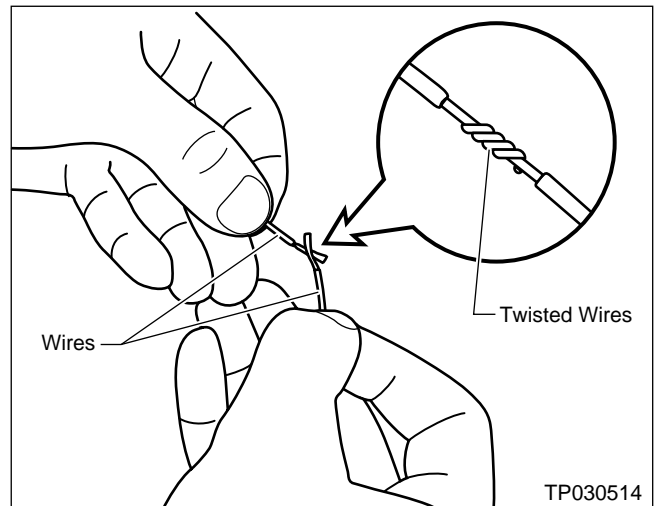

Figure 3
6. Connect the wire (of the replacement connector) to the vehicle wire harness making sure the wires are correctly connected (i.e., no mis-matched wires). Then, firmly and securely twist the two wire ends together (see Figure 3).